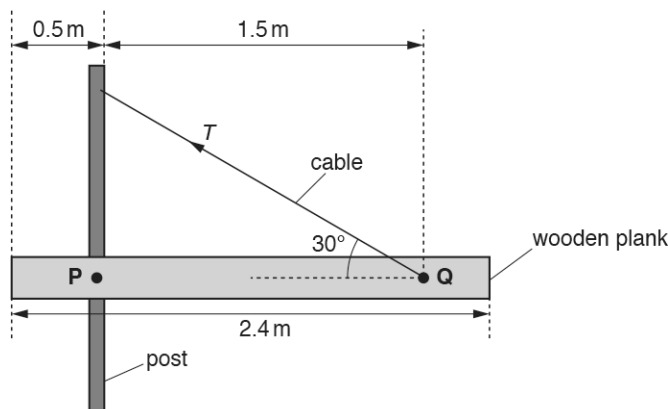

Fig. 4 (not to scale)
46. An engineer is investigating the tension in a steel cable supporting a uniform wooden plank as shown in Fig. 4.
The plank is 2.4 m long and has a mass of 50 kg. It is pivoted at point P to a vertical post. The cable is fixed to the plank at point Q and to the vertical post as shown in Fig. 4. The cable is at an angle of 30° to the plank. The plank is in equilibrium and resting in a horizontal position.
Calculate the extension x of the cable shown in Fig. 4.